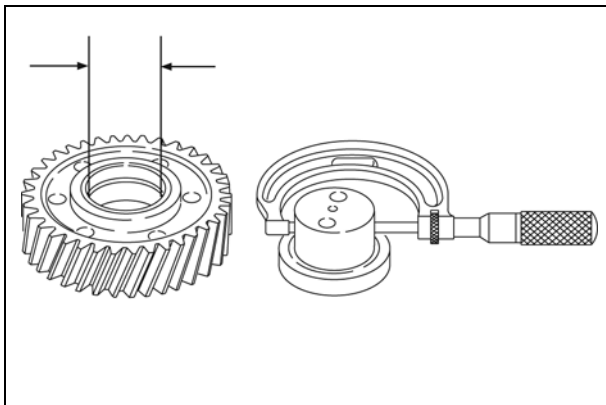

Figure 7
3. If backlash exceeds 0.008 in. (0.2 mm) check idler gear bearing and shaft for wear (Figure 7).